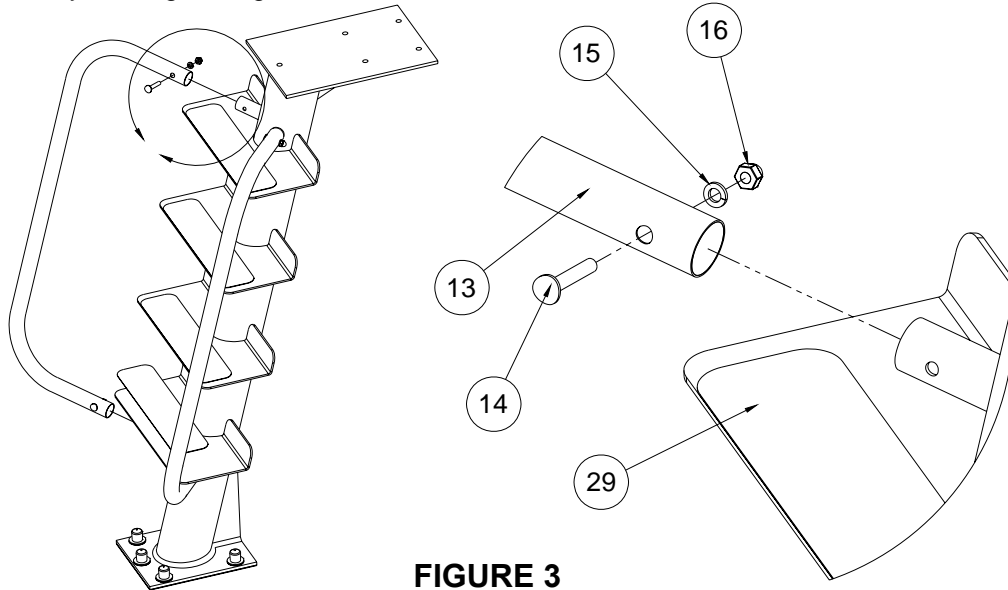

FIGURE 3
3. Locate **Plastic Non-Skid Tread (item 29)** and remove adhesive protective paper and place non-skid centered on steps as shown below, four (4) places.
4. Install **CAT-LG-100 HANDRAIL (item 13)** onto post assembly as shown below, **FIGURE 3**, two (2) places. Align holes and insert two (2) **3/8" X 2" Cradle Head Bolts (item 14)** into each handrail. Place **3/8" Lock Washer (item 15)** onto each cradle head bolt. Place **3/8" Acorn Nut (item 16)** onto cradle head bolt after lock washer. Tighten all acorn nuts being careful not to crush tubes by over-tightening.